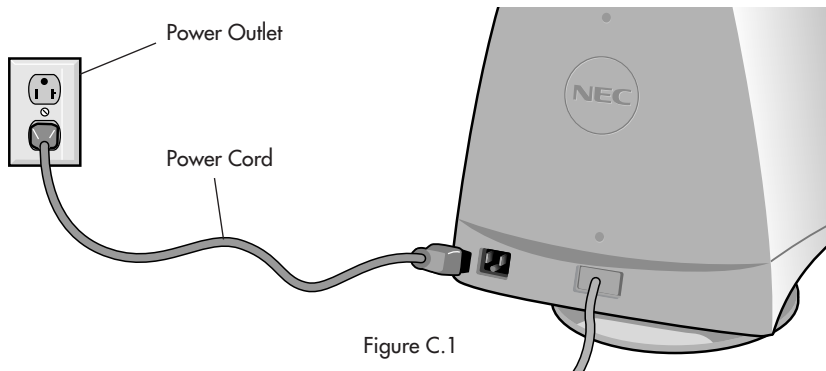

Figure C.1
**NOTE:** To obtain the Macintosh cable adapter, call NEC Technologies at (800) 820-1230.
4. Connect one end of the power cord to the AccuSync monitor and the other end to the power outlet (**Figure C.1**).